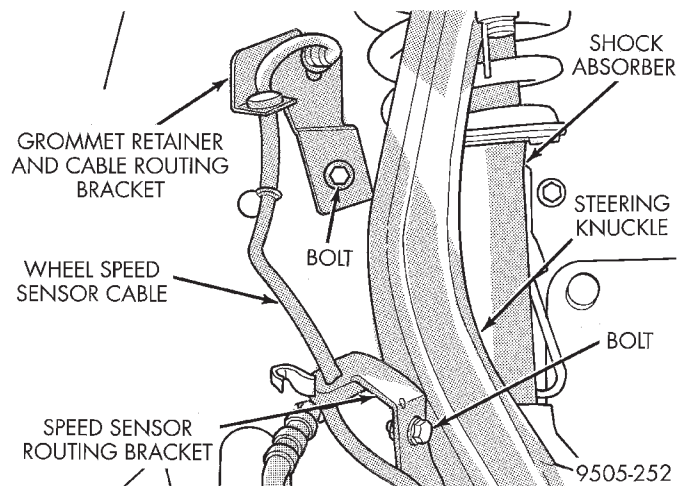
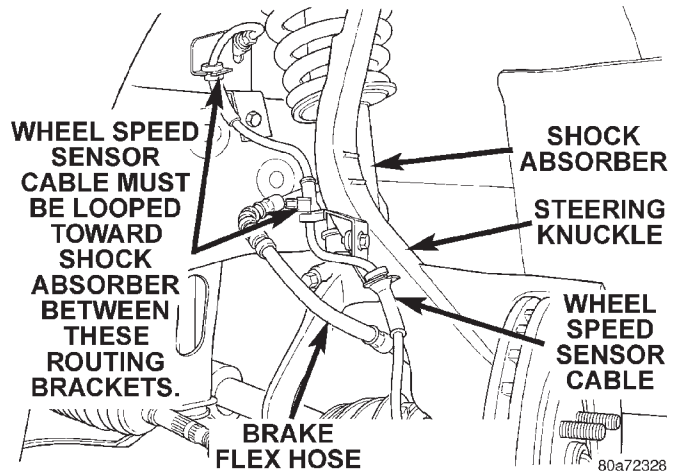

**Fig. 31 Speed Sensor Cable Routing Brackets**
**Fig. 35 Correct Front Wheel Speed Sensor Cable Routing**
(1) Raise vehicle on jack stands or centered on a frame contact type hoist. See Hoisting in the Lubrication and Maintenance section of this manual, for the required lifting procedure to be used for this vehicle.
(2) Remove the tire and wheel assembly from the vehicle.
(3) Remove the speed sensor cable routing bracket (Fig. 31) from the steering knuckle. Remove the wiring harness sealing grommet retainer and speed sensor routing bracket from the inner fender.
(2) Install the speed sensor cable assembly grommet into the front inner fender (Fig. 31). Install speed sensor cable grommet retainer/routing bracket on the inner fender of the vehicle and install and securely tighten attaching bolt (Fig. 31).
**CAUTION:** When installing the wheel speed sensor cable routing bracket on the steering knuckle, (Fig. 31) the speed sensor cable must be looped toward the shock absorber as shown in (Fig. 35). If speed